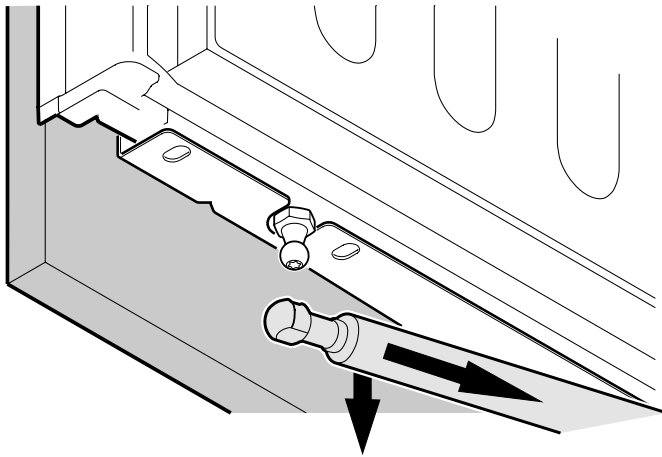

Figure 26
5. Grasp the soft-stop cylinder and pull down (**Figure 26**).